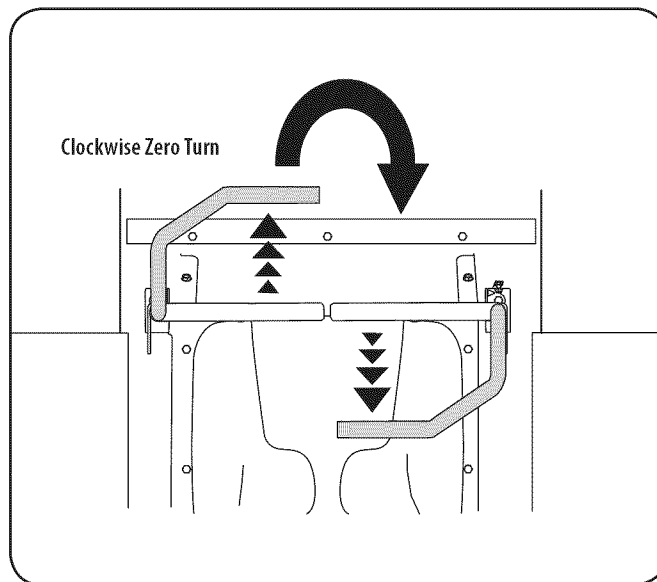

Figure 9
2. To turn clockwise, move the left control lever forward while simultaneously moving the right control lever rearward. See Figure 9.